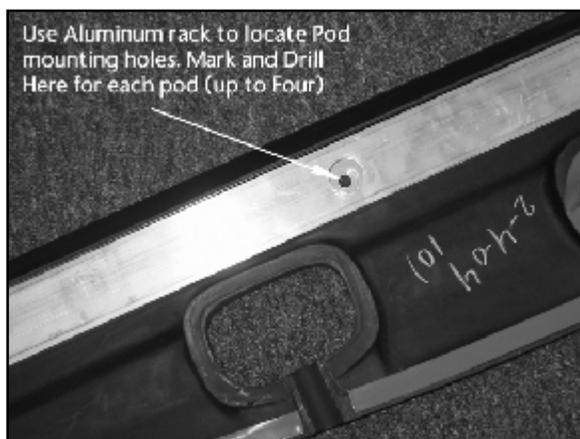

Fig.1
3. Set Aluminum Rack in back of Cover and locate Light mounting holes as shown in Fig.1 Mark and drill holes for light pods through cover using 3/8 drill bit.